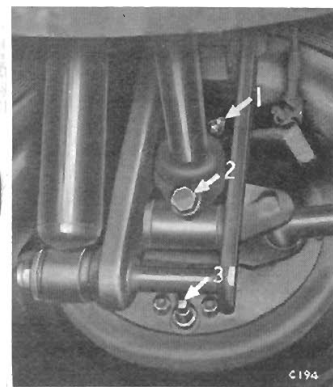

Fig. 16. Rear brake adjuster
**Rear Brake Adjustment (Fig. 16)**